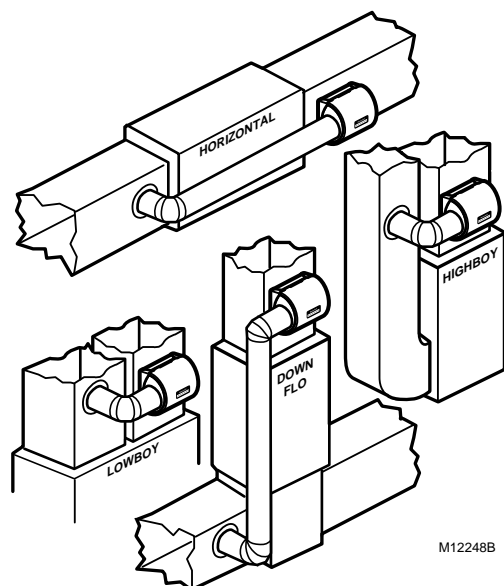

Fig. 1. Typical humidifier installation locations.
1. Determine the best location for the humidifier and draw a level line on the plenum. See Fig. 1.